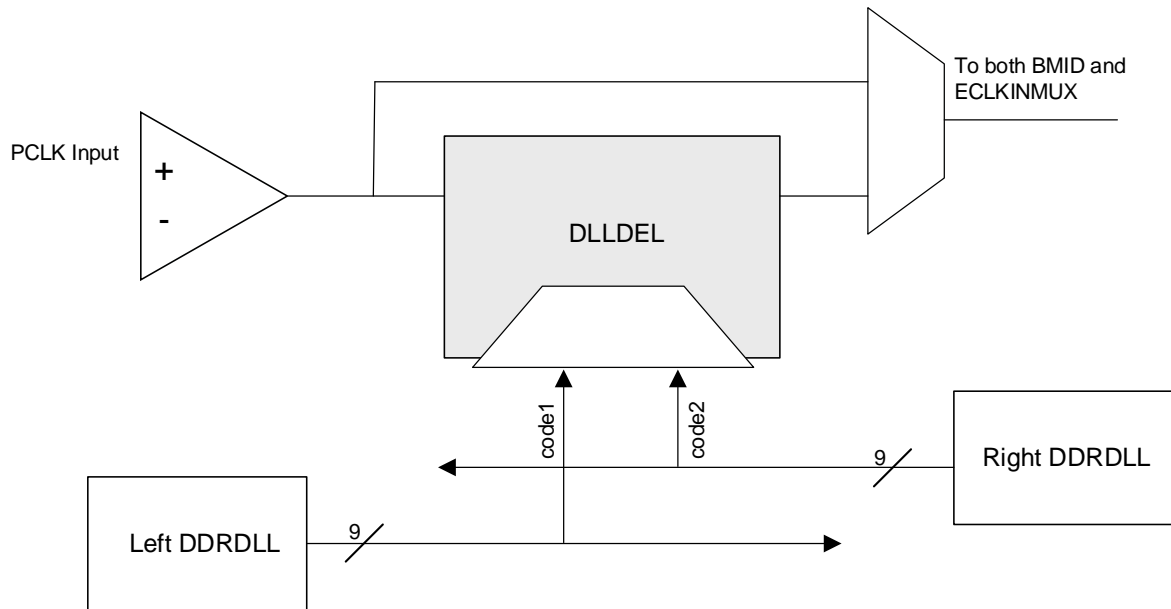

Figure 2.11. DLLDEL Functional Diagram
- The code is also sent to another slave DLL, DLLDEL, that takes a primary clock input and generates a 90 degree shift clock output to drive the clocking structure. This is useful to interface edge-aligned Generic DDR, where 90 degree clocking needs to be created. Not all primary clock inputs have associated DLLDEL control. Figure 2.11 shows DDRDLL connectivity to a DLLDEL block (connectivity to DQSBUF blocks is similar).